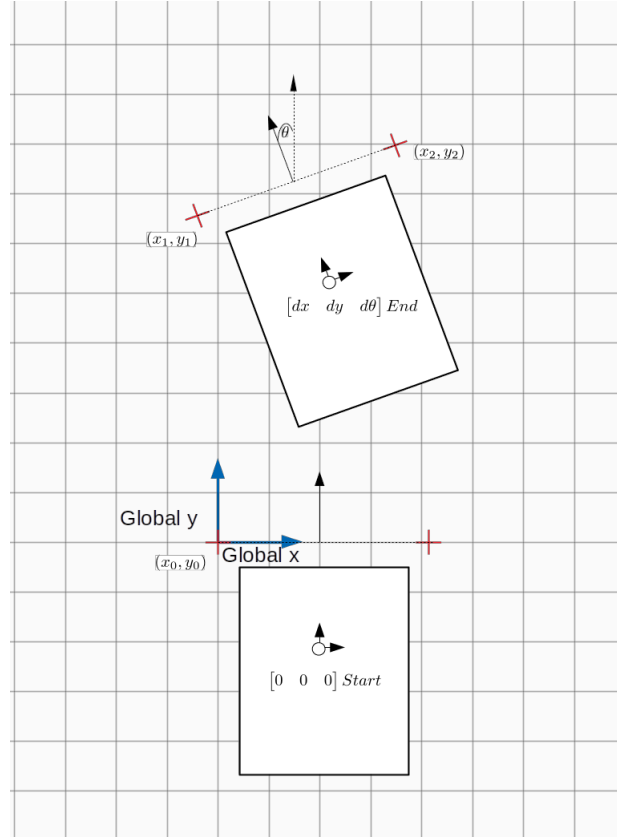

Figure 1.7: Robot orientation
- Since the magnitude change of  $x$  and  $y$  ( $\Delta x$  &  $\Delta y$ ) will be the same for markers and the origin of the robot, we just have to account for the offset. The change in orientation will be the same and requires no additional calculations. See Figure 1.7 for details.
- Since there are 4 variables namely  $x_1, x_2, y_1, y_2$  (refer Figure 1.7 for naming convention), the error associated to each of them contribute to the propagated error.